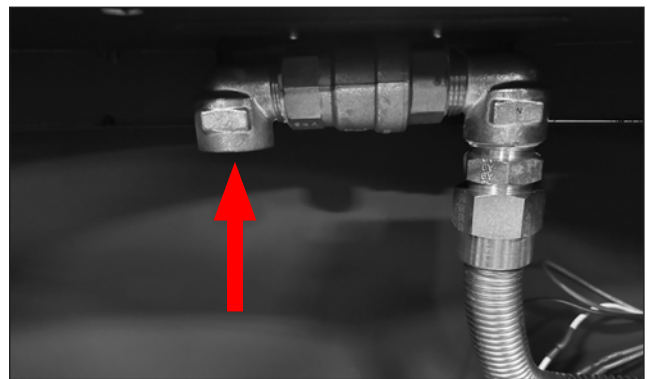

Figure 10: Gas Connection
4. Remove four (4) T-20 screws securing the log tray to fire pit chassis and lift the media tray up.
6. **Gas Connection:** Connect gas to the inlet on the open side of the shutoff key valve. Use 3/4 in. fittings only. See Figure 10.
5. remove eight (8) T-20 screws securing the log tray to fire pit chassis and lift the media tray up.
6. Connect gas to the inlet on the open side of the shutoff key valve. Use $\frac{3}{4}$ in. fittings only. See Figure 10.
- 10 Connect gas to the inlet on the open side of the shutoff key valve. Use 3/4 in. fittings only (See Figure 10).